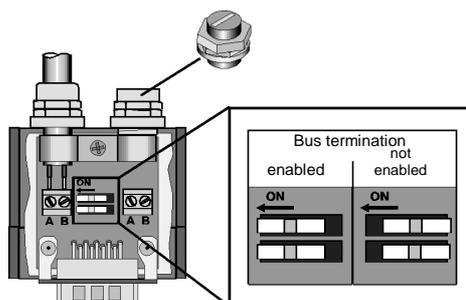

Fig. 3: Switch for bus termination, plug
- Switch on the terminating resistors both at the start and at the end of the segment (Fig. 3). If the bus cable is looped through, the terminating resistors must not be switched on.
- At the start and end of the segment a cable exit must be closed with the plug supplied (Fig. 3).